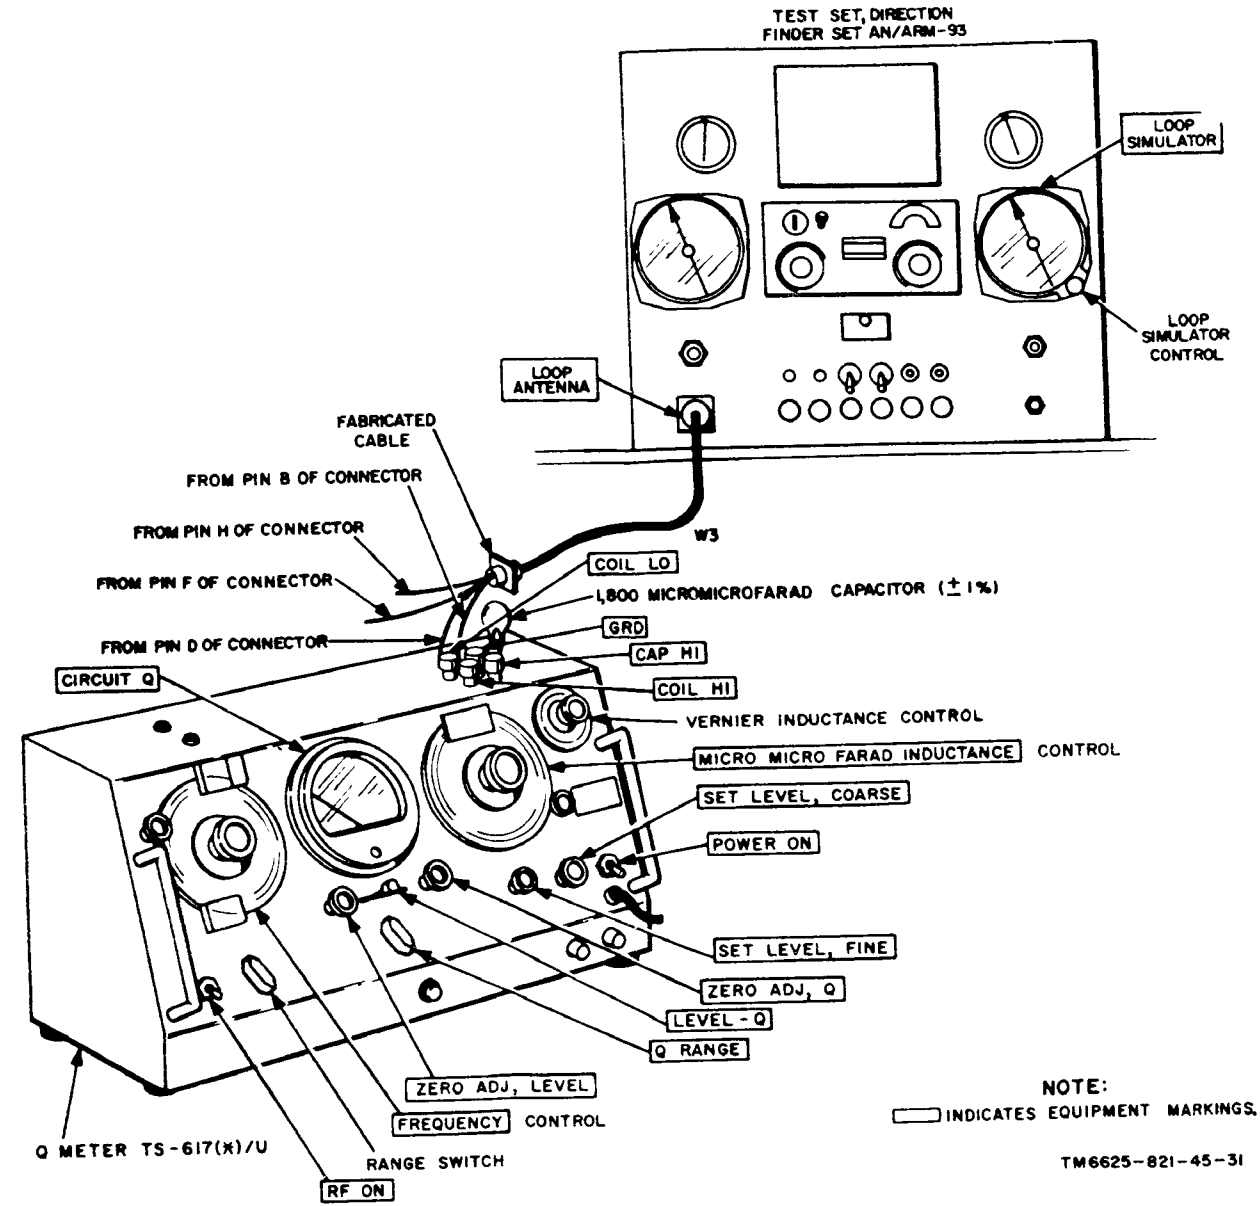

Figure 4-10. LOOP SIMULATOR impedance test setup.
- (1) Q Meter TS-617(*)/U.
- (2) Fabricated cable for the LOOP SIMULATOR.
- (3) 1,800-micromicrofarad capacitor.
b. Test Connections and Conditions. Connect the equipment as shown in figure 4-10. Set the TS-617(*)/U POWER ON switch to the ON position, and allow a 5-minute warmup period.